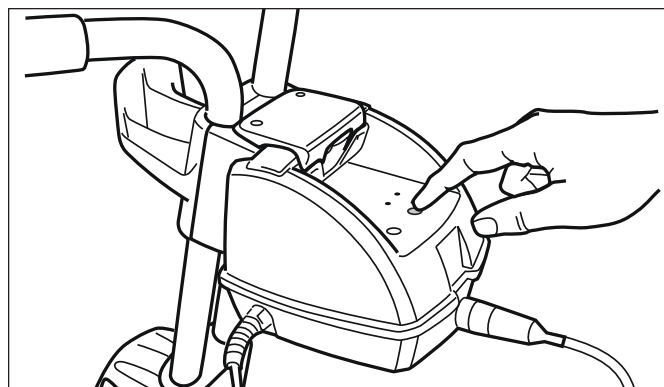

Figure 19. Start the Cleaner
1. To start your cleaner, press the desired cycle button (Figure 19). "Cycle I" is the most commonly selected cleaning program for inground pools.